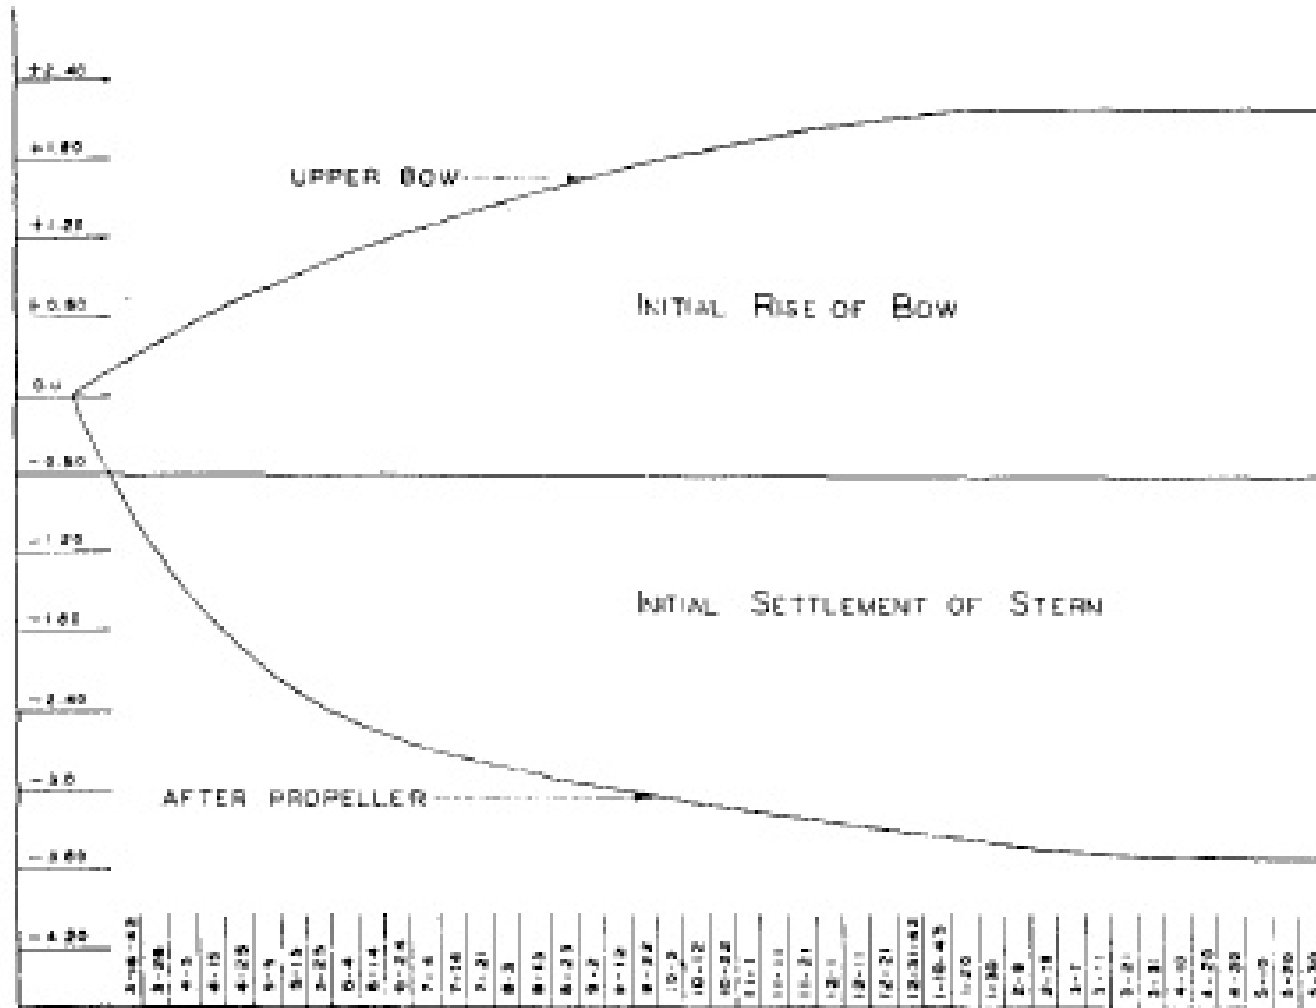

Figure 22
17. From the soil studies, it was felt that the vessel rested on material of sufficient strength to preclude anything but minor settlement of the ship. This was borne out in the actual settlement. (See fig. 22.) After weighing the possibilities, an effective bearing plane of minus 49 feet (i. e., 49 feet below mean low water) was assumed for the bearing studies of the ship at rest and during the righting stages.